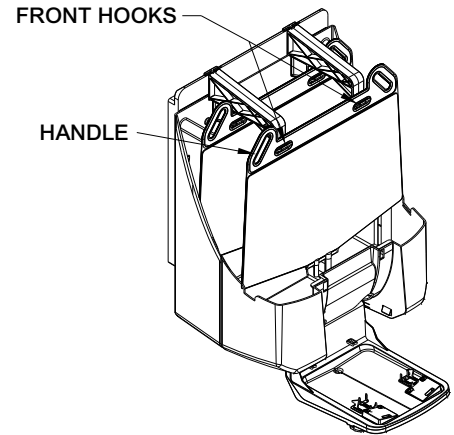

Figure 10
- B. Lift second Cartridge by handles provided and place on front hooks of Hanger Bracket (Ref Figure 10).